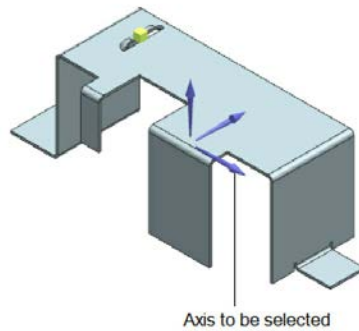

Figure 14-118 Axis to be selected from the triad
7. Select the axis of the triad, as shown in Figure 14-118 and then select the **Count and Span** option from the **Spacing** drop-down list.